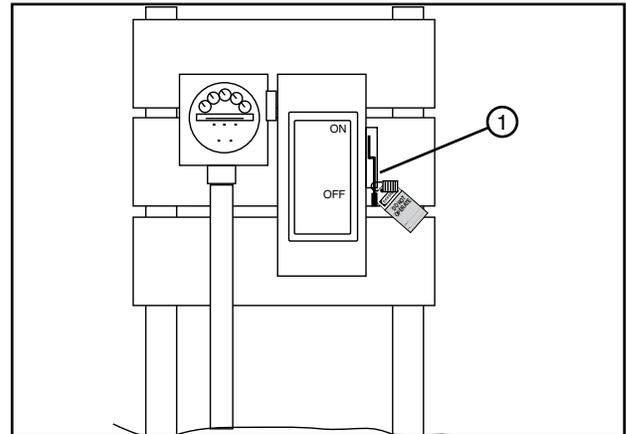

Figure 103-1 1. Public Power Service Disconnect
1. SHUT OFF and LOCK the public power service disconnect to the irrigation machine. See Figure 103-1.
FILL OUT the blue (OSHA safety color code) tag and attach to the disconnect after locking. See Figure 103-1.